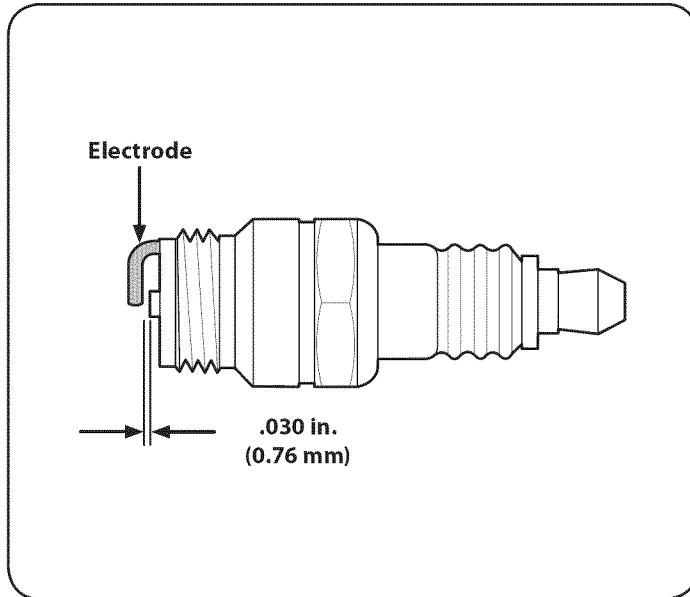

Figure 27
3. Measure the plug gap with a feeler gauge. Correct as necessary by bending the side electrode, Figure 27. The gap should be set to .02-.03 inches (0.60-0.80 mm).
2. Use pliers to squeeze tabs on the clamps, then slide the clamps away from the fuel filter. Twist and pull the fuel lines off of the fuel filter. Refer to Figure 27.